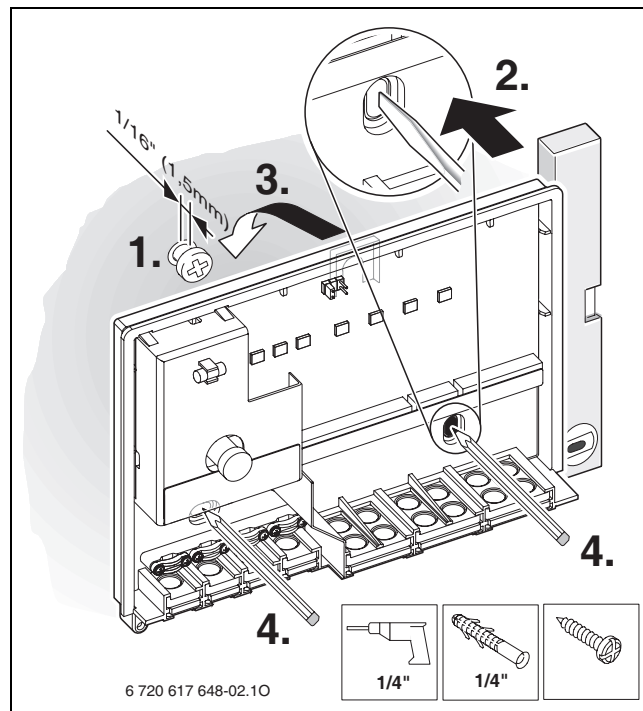

Fig. 8 Upper attachment screw
- ▶ For the upper attachment screw, drill a $\varnothing 1/4"$ (6 mm) hole, insert an appropriate wall anchor, and insert the screw until only $1/16"$ (1.5 mm) protrudes (→ fig. 8).